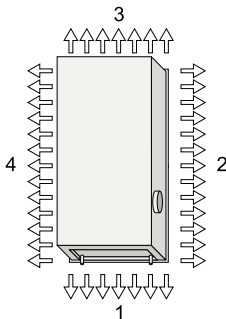

Figure 14. Top view, nozzle setting, ADAPT Parasol two-module unit, sides 1-4.
***) All four sides on the unit can be set individually. The designation of the nozzle setting follows the order according to Figure 14. See Figure 15 for example.